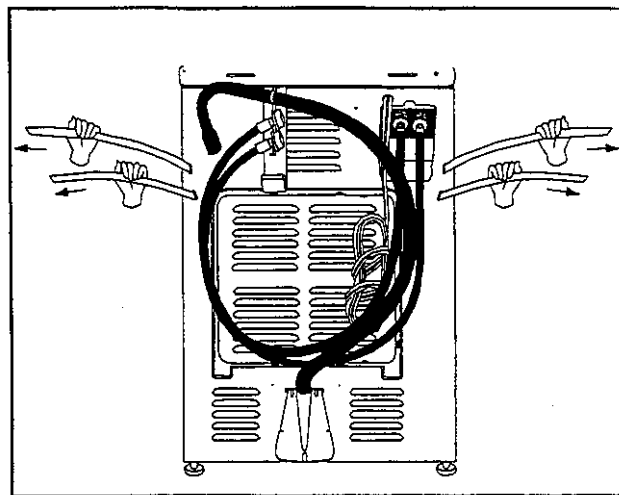

Figure 1-2
B. Grasp each loose strap individually and pull the strap to remove it from the cabinet. Discard the strap (Figure 1-2).